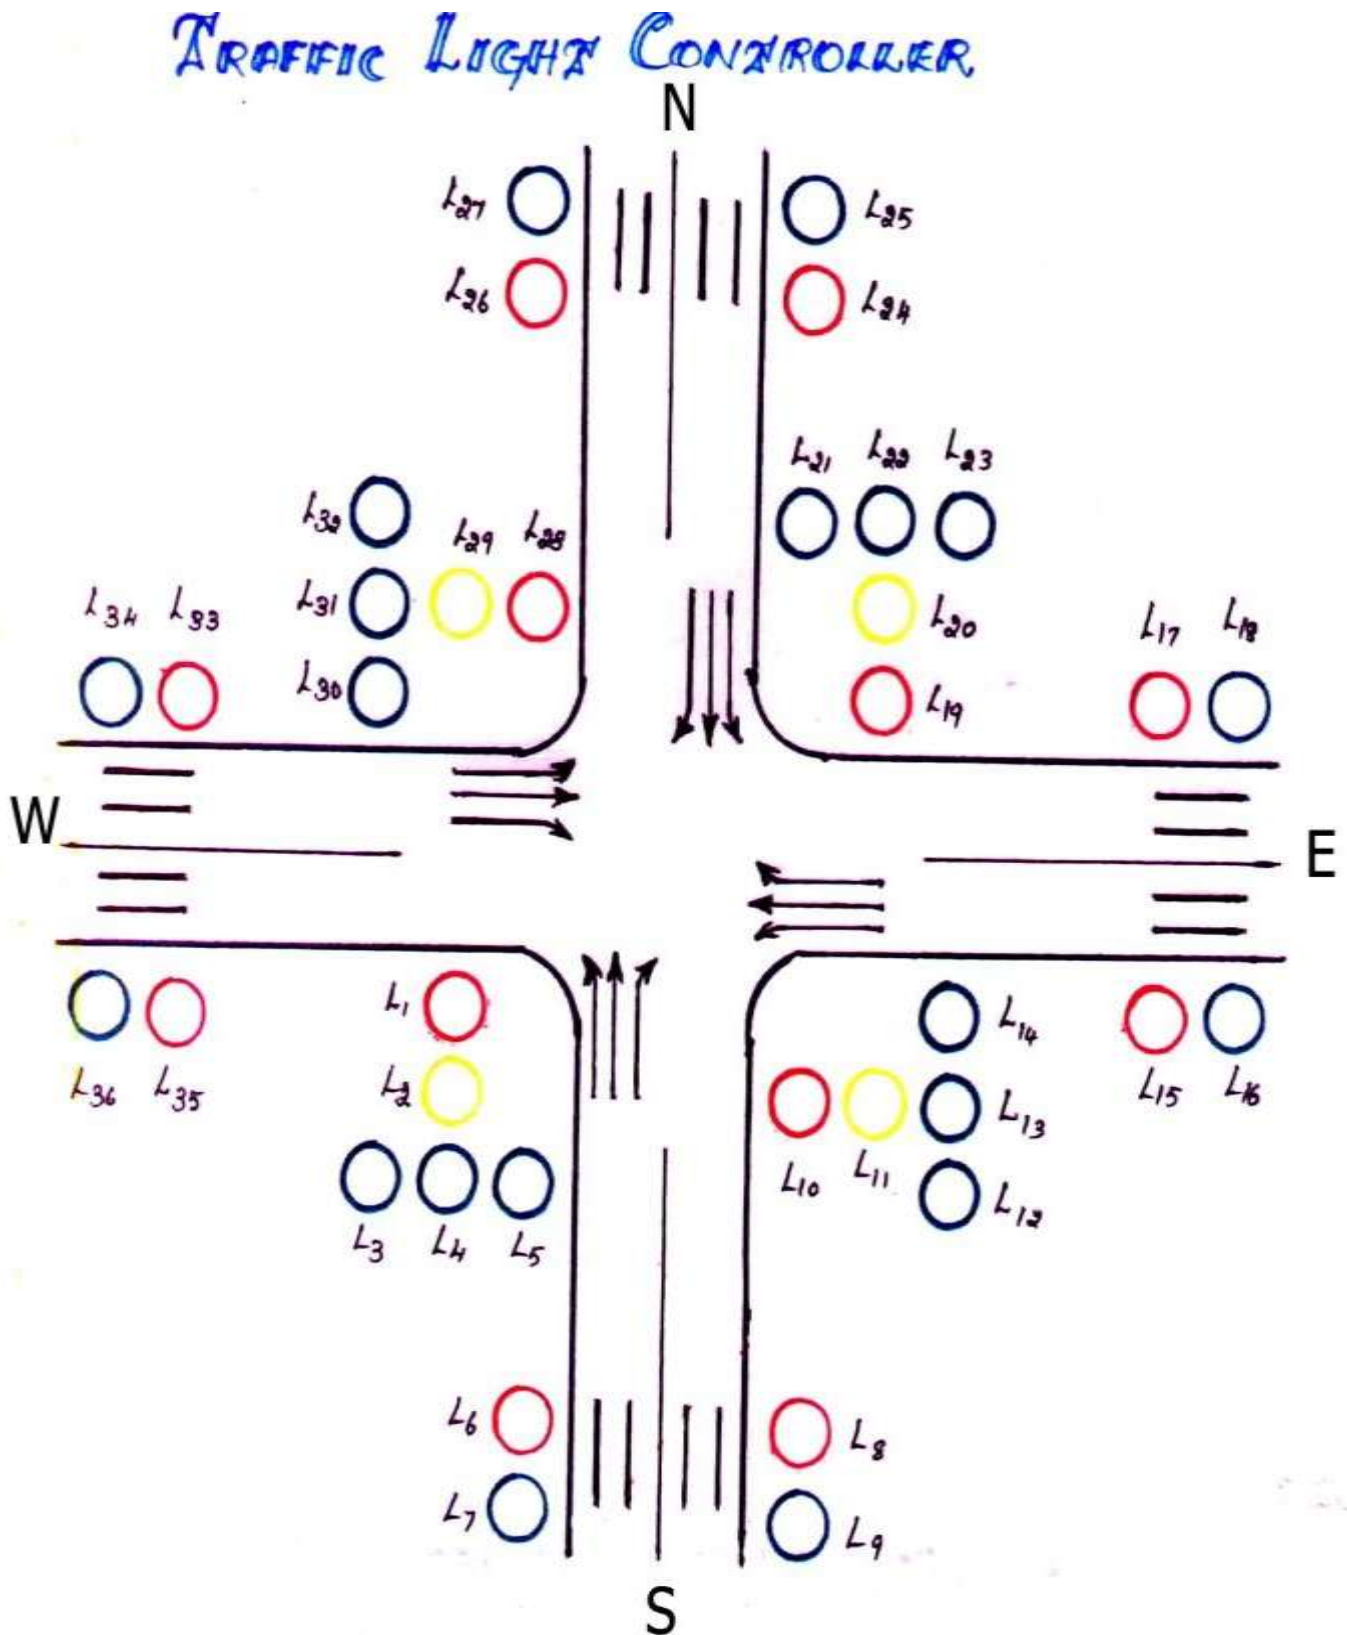

Figure 3.9.1 Traffic Light Junction with arrangement of LEDs
Is represented in the Figure 3.9.1. At the left corner of each road, a group of five LEDs (red, amber and 3 green) are arranged in the form of a T-section to control the traffic of that road. Each road is named North (N), South(S), East (E) and West (W).